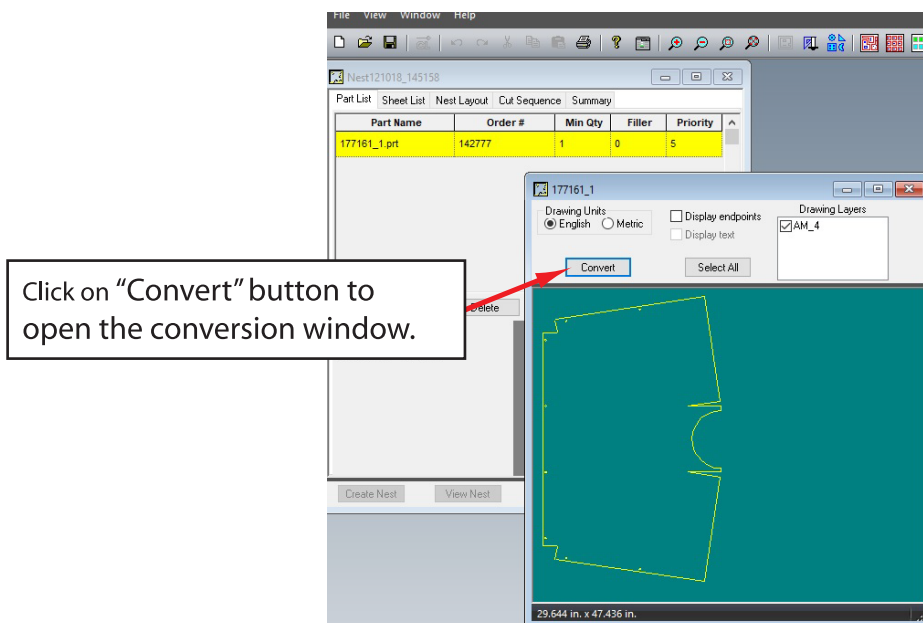

Fig.21
- 26) When you have located the DXF file you need, highlight it and click “OK” and it will pull in the file and display it in the conversion window with the greenish teal background, as shown in Fig.21. Now click the “Convert” button and the conversion window will open where you will select a few things there.